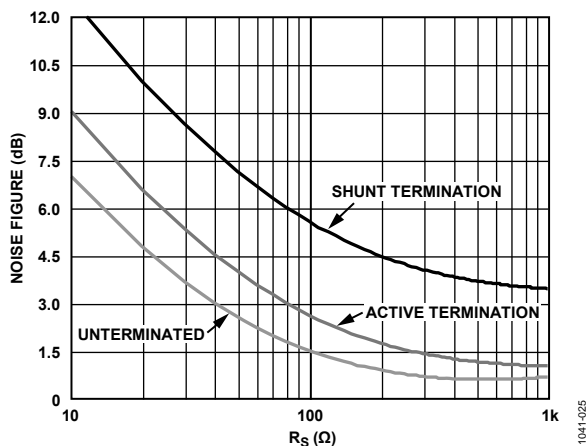
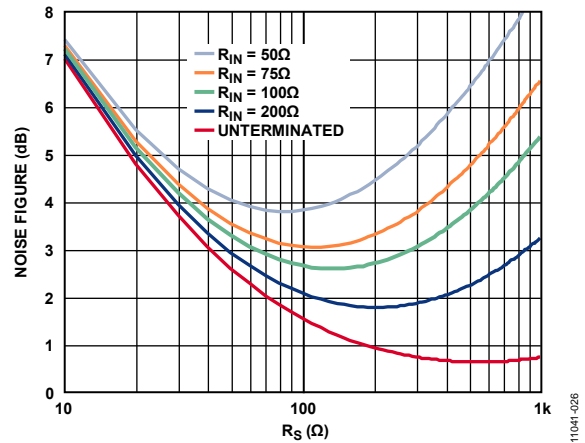

Figure 35. Noise Figure vs. R_S for Shunt Termination, Active Termination Matched, and Unterminated Inputs, $V_{GAIN} = 1.6 V$
Figure 36. Noise Figure vs. R_S for Various Fixed Values of R_{IN} , Active Termination Matched Inputs, $V_{GAIN} = 1.6 V$
The short-circuit noise voltage (input referred noise) is an important limit on system performance. The short-circuit noise voltage for the LNA is 0.78 nV/ $\sqrt{\text{Hz}}$ at a gain of 21.6 dB, including the VGA noise at a VGA postamplifier gain of 27 dB. These measurements, taken without a feedback resistor, provide the basis for calculating the input noise and noise figure (NF) performance. Figure 35 and Figure 36 are simulations of noise figure vs. R_S results with different input configurations and an input referred noise voltage of 2.5 nV/ $\sqrt{\text{Hz}}$ for the VGA. Underterminated ($R_{FB} = \infty$) operation exhibits the lowest equivalent input noise and noise figure. Figure 36 shows the noise figure vs. source resistance rising at low R_S —where the LNA voltage noise is large compared to the source noise—and at high R_S due to the noise contribution from R_{FB} . The lowest NF is achieved when R_S matches R_{IN} .
Figure 35 shows the relative noise figure performance. With an LNA gain of 21.6 dB, the input impedance is swept with R_S to preserve the match at each point. The noise figures for a source impedance of 50 Ω are 7 dB, 4 dB, and 2.5 dB for the shunt termination, active termination, and unterminated configurations, respectively. The noise figures for 200 Ω are 4.5 dB, 1.7 dB, and 1 dB, respectively.
Figure 36 shows the noise figure as it relates to R_S for various values of R_{IN} , which is helpful for design purposes.